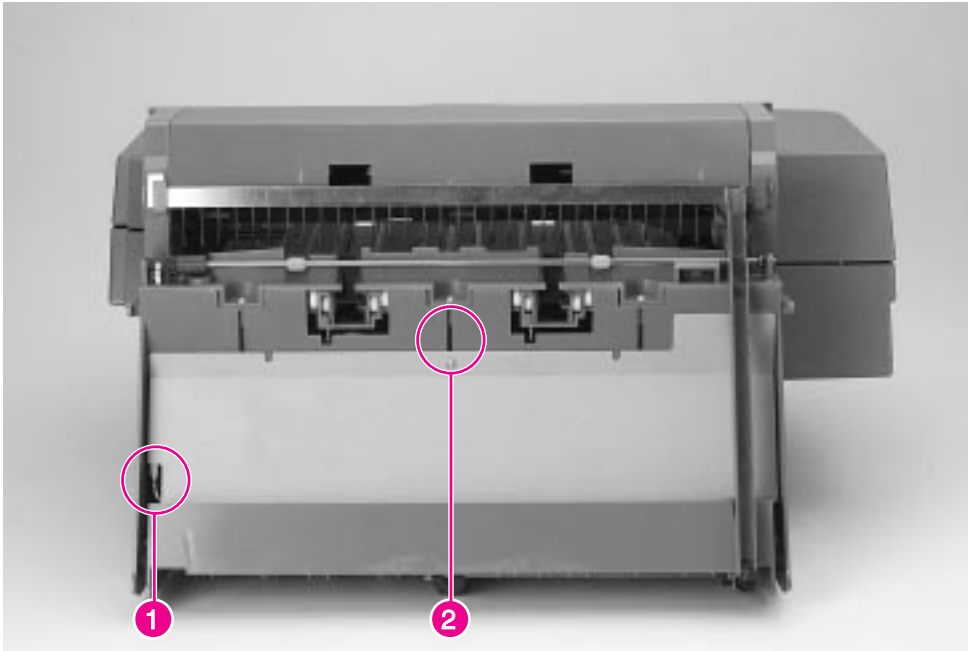

Figure 6-82 Back Plate (2 of 2)
- 3 Remove the Torx screw joining the Back Plate with the Stapler (see figure 6-82, callout 2).
- 4 Release the ground cable that is connected to the Back Plate (see figure 6-82, callout 1).